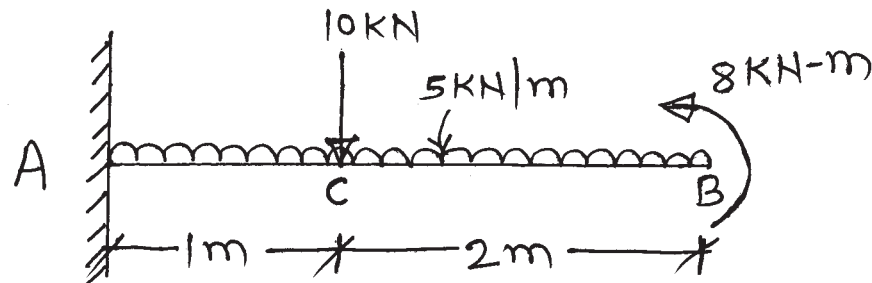

Fig. No. 3
- a) Draw SF and BM diagrams for a cantilever beam loaded as shown in Fig. No. 3.